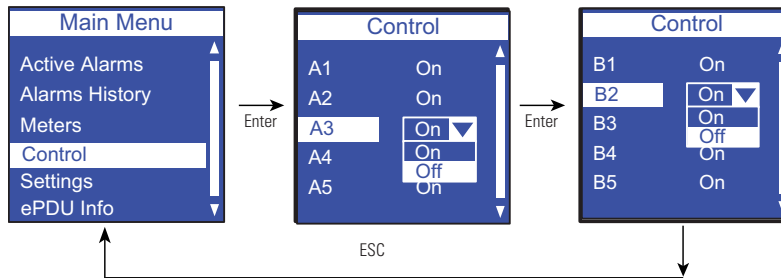

Figure 57. Example Control Submenu Display
For Switched (SW) and Managed (MA) ePDUs only. On the Main Menu, scroll up or down to highlight **Control**. Press **ENTER**. Scroll up or down to see a list of outlet group IDs. Select an outlet group. The On/Off drop down list displays. Select On or Off. The selected state of the outlet displays. Scroll up or down to see other lists of outlet group IDs (if available). Press **ESC** to return to the previous menu (see Figure 57).